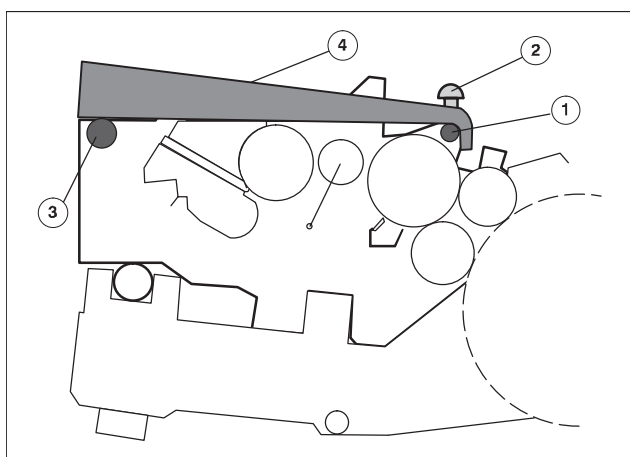

Fig. 27
1. Insert the pipe for washing fluid (Fig. 27/4) in the press above the numbering slide-in unit. The bolt (Fig. 27/2) serves to fix and lock the position on the cross bar (Fig. 27/1).
2. Deposit the feed on the cross bar (Fig. 27/3).